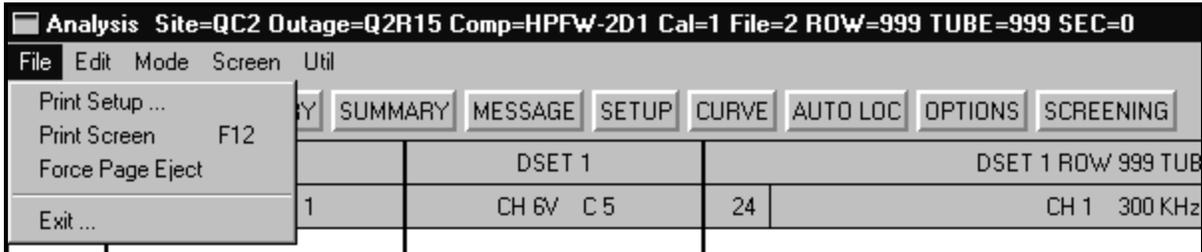
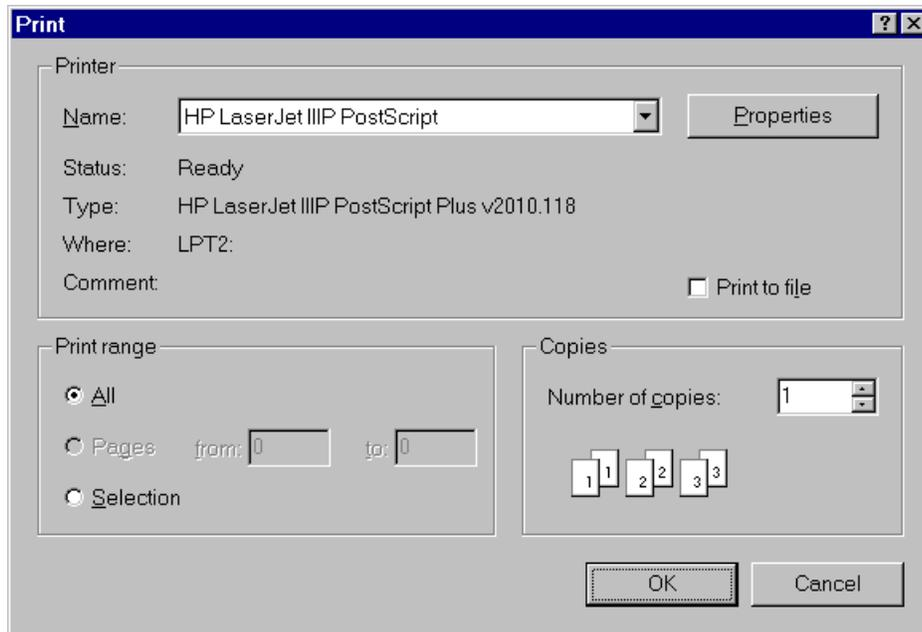

Figure 3-5. File Menu
Figure 3-6. Print Setup Window
As shown in Figure 3-5, the **File** menu contains four (4) choices. They are: **Print Setup ...**, **Print Screen (F12)**, **Force Page Eject**, and **Exit ...**.
- **File > Print Setup ...:** As the name implies, selecting the **File > Print Setup ...** menu item in Figure 3-5 causes the typical Windows® Print window to appear as shown in Figure 3-6. Using this window, the printer's parameters can be set as desired. In order to access other printer settings, i.e., landscape, portrait, etc., select the **Properties** button. Once the print parameters are set as desired, all successive screen dumps will print based on these settings until changed.
- **File > Print Screen (F12):** As the name implies, selecting the **File > Print Screen (F12)** menu item in Figure 3-5, causes the system to print the currently displayed analysis window to the default printer. The layout of the resulting printout is determined by other settings that will be covered later in this section (*see Options Button*). The driver for the selected printer must be installed on the computer for **Print Screen** to function properly. The shortcut key on the keyboard for **Print Screen** is the **F12** function key.
- **File > Force Page Eject:** Selecting the **File > Force Page Eject** menu item in Figure 3-5 causes all current graphics being held in the computer's memory to be sent immediately to the default printer. Later in this section, you'll learn how to set the print function for one, two, three, or four graphics per page (*see Options Button*). If the print function is set for more than one graphic per page, graphics are held in memory each time the **Print Screen** function is selected. When the specified number of graphics equals the number selected per page, the printout is then sent to the printer. The **Force Page Eject** function allows the user to print the graphics currently stored in memory regardless of the number of graphics per page setting.
- **File > Exit ...:** Selecting the **File > Exit ...** menu item in Figure 3-5 displays a warning message box asking you to confirm your desire to close the Analysis software. Clicking **Yes** closes the program while clicking **No** leaves the program open. Clicking the 'X' button in the upper right corner of the window immediately closes the program with no warning.